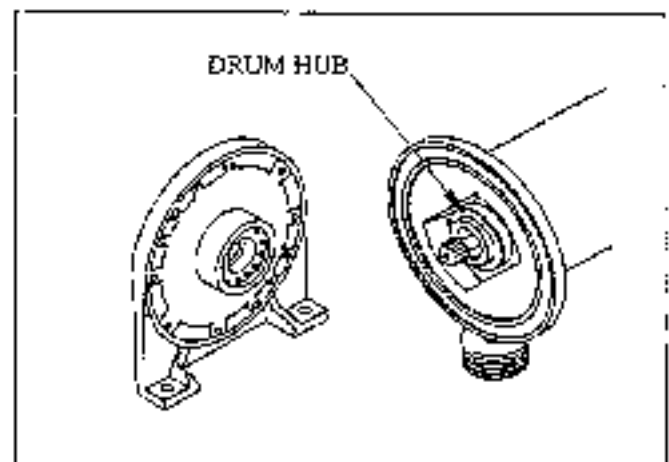

Figure 12
- (11) Inspect the seal, bearing, retaining ring groove on the drum hub. If bearing replacement is necessary, remove the seal and spirolox retaining ring. See figure 12 and 13.
- (14) Inspect the seal, bearing, retaining ring groove on the drum hub. If bearing replacement is necessary, remove the seal and spirolox retaining ring. See figure 12 and 13.